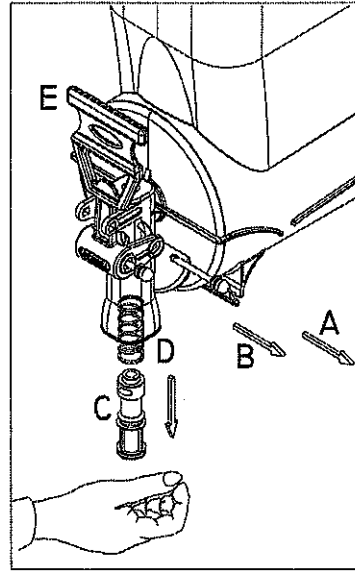

Fig. 11
6.1 Disassembling of the tap. (Fig. 11)